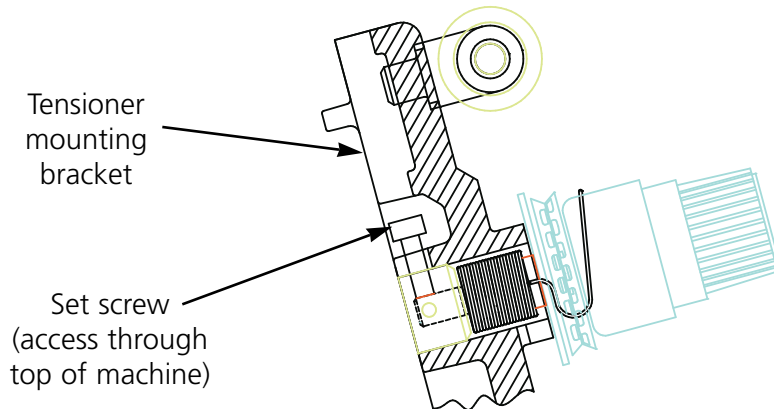

Figure 5-14
1. Slightly loosen the set screw in the top of the tensioner mounting bracket (see Figure 5-14).